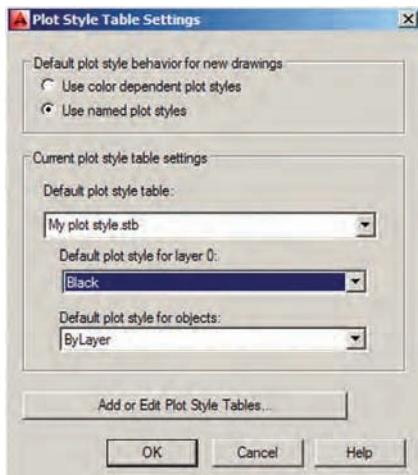

FIGURE 14.4 Configuring the default plot style behavior and settings for new drawings
2. Click the Plot Style Table Settings button in the lower right of the Options dialog box. Select the Use Named Plot Styles radio button in the Plot Style Table Settings dialog box that appears. Select `My plot style.stb` from the Default Plot Style Table drop-down menu. Select Black from the Default Plot Style For Layer 0 drop-down menu. Select ByLayer from the Default Plot Style For Objects drop-down menu if it is not already selected (see Figure 14.4). Click OK and then click OK again to close both of the open dialog boxes.